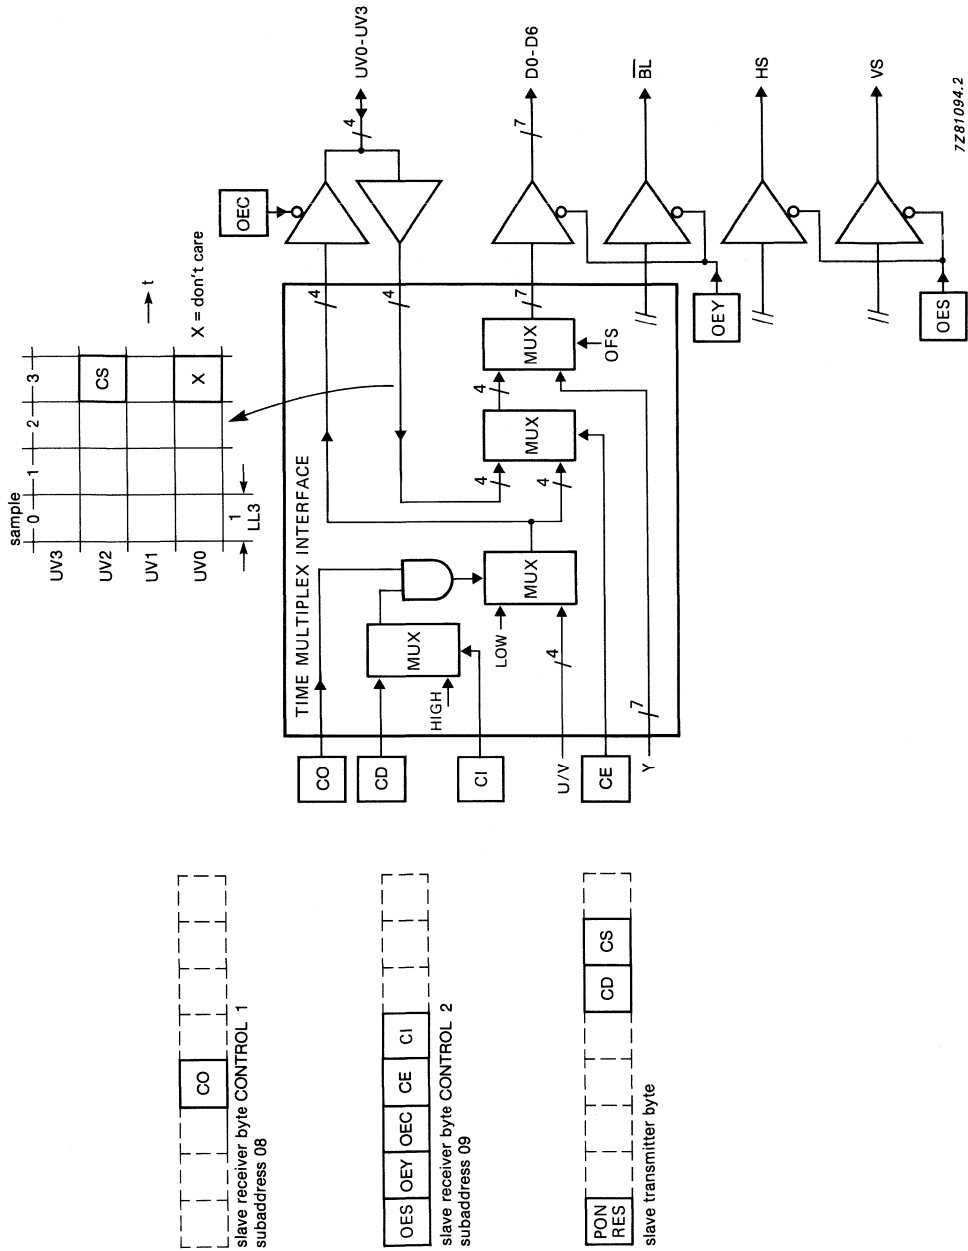

Fig.6 Schematic diagram of control signals at the time-multiplex interface and output stages.
- colour-killer status signal (CD)
**Time-multiplex interface** (Fig.6)